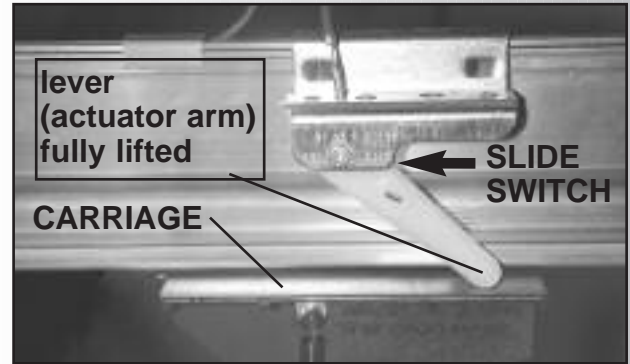

Fig. 7-1
- Slide “CLOSE” limit switch back toward carriage until lever is fully lifted. **Fig. 7-1.**
- Slide “OPEN” limit switch back toward carriage until lever is fully lifted. **Fig. 7-1.**